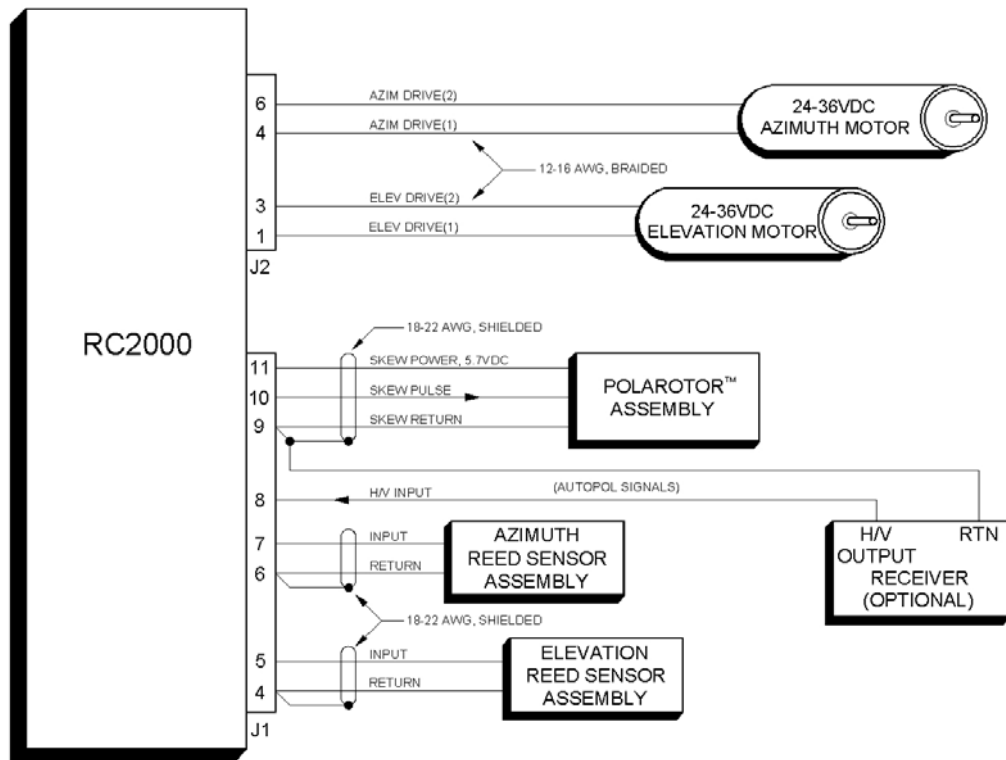

Figure 3.2 - Reed Sensor Interface
2. Connect the AutoPol input as shown in figures 3.2 or 3.3.